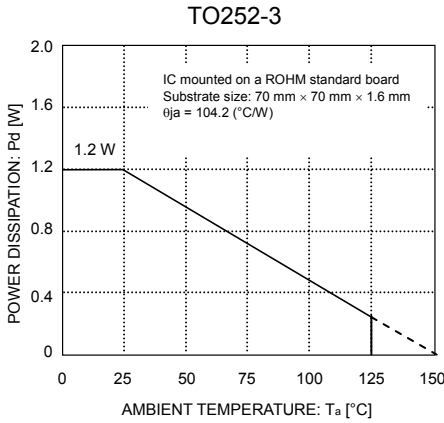

Fig. 23
Refer to the heat mitigation characteristics illustrated in Figs. 23, 24 and 25 when using the IC in an environment where $T_a \geq 25^\circ\text{C}$. The characteristics of the IC are greatly influenced by the operating temperature. If the temperature is in excess of the maximum junction temperature T_{jmax} , the elements of the IC may be deteriorated or damaged. It is necessary to give sufficient consideration to the heat of the IC in view of two points, i.e., the protection of the IC from instantaneous damage and the maintenance of the reliability of the IC in long-time operation.
In order to protect the IC from thermal destruction, it is necessary to operate the IC not in excess of the maximum junction temperature T_{jmax} . Fig. 23 illustrates the power dissipation/heat mitigation characteristics for the TO252 package. Operate the IC within the power dissipation P_d . The following method is used to calculate the power consumption P_c (W).